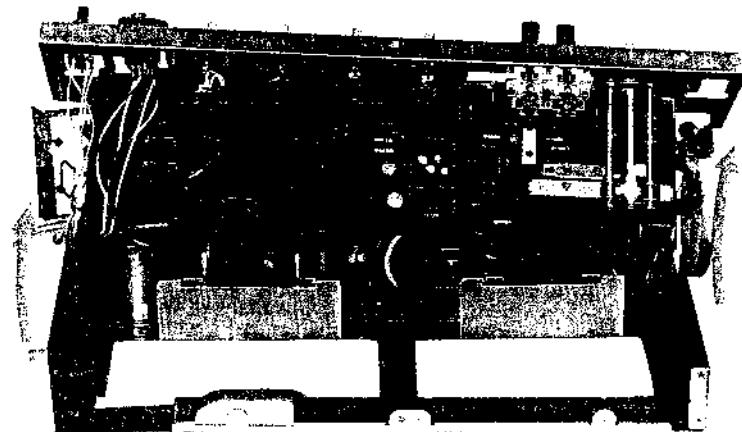

Fig. 2-18. Front subchassis removal
3. Carefully raise lower part of front subchassis in the direction shown by the arrows as shown in Fig. 2-18.